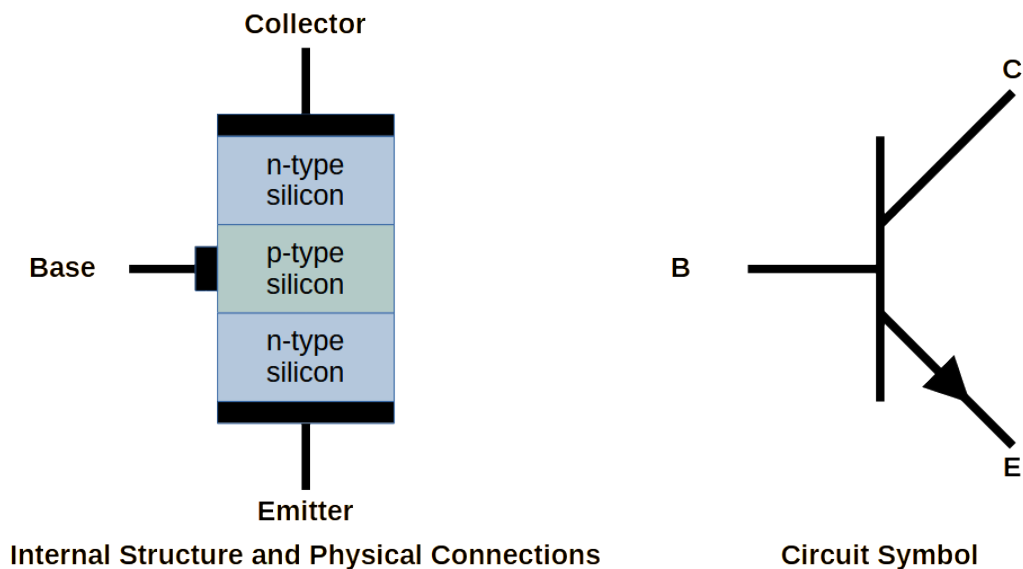

Figure 29: NPN transistor internal structure, physical connections and circuit symbol
- a. The internal structure, physical connections and circuit symbol of an NPN transistor is shown in Figure 29